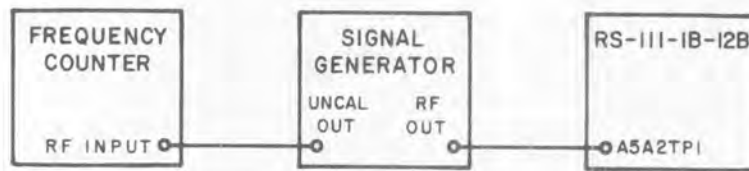

Figure 4-37. Test Setup, Signal Monitor, IF Alignment
- (1) Connect the equipment as shown in Figure 4-37.